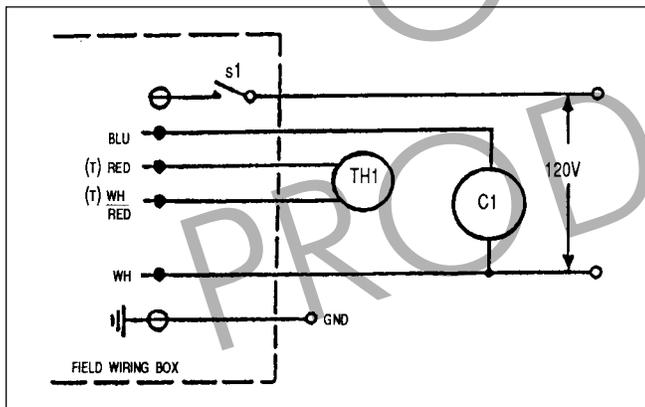

Figure 18. Single Zone.
2. For single zone installations, connect room thermostat (T-T) wires to the red and white/red wires. Connect circulator (120 volt, 5 amps maximum) between the blue wire and the white wire (neutral) (see Figure 18). Set **thermostat** anticipator to 0.9 amps.
Where a HP-M2-Series in a Paloma Pak/Hytech retrofit is connected to a single zone system, the original transformer relay control-pak should be removed and all field wiring connected to the unit electrical connection junction box on the right side of the unit. The 120VAC power input, 120VAC system circulator output and thermostat should be wired as outlined in figure 18.